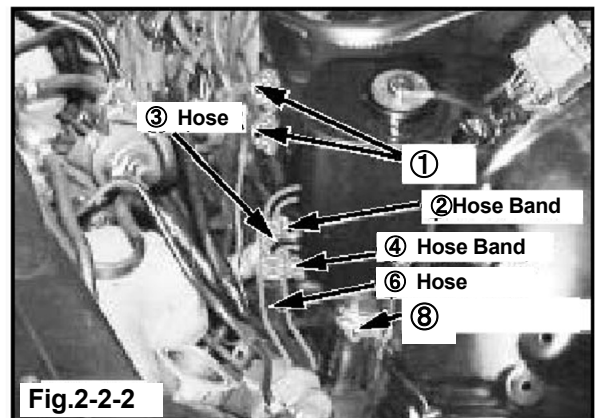

Fig.2-2-2
- 5) Remove the bolts ① (2 pcs) (Fig.2-2-2)
- 6) Loosen ②. Then remove ⑥. (Fig.2-2-2)
- 7) Loosen ④, ⑤. Then remove ⑥. (Fig.2-2-2, Fig.2-2-3)
- 8) Loosen ⑧. (Fig.2-2-2)
13) Install the power steering tank return hose and fix it with ① (Fig. 2-2-2 ⑧). (Fig.2-2-6)
19) Attach ① to the power steering tank bracket No.1 using the bolts ② (Fig.2-2-2 ① (2 pcs)). (Fig.2-2-8, Fig.2-2-9)
24) Connect ① (Fig.2-2-2 ③) and oil-resistant hose dia.10 cut to 400 mm attached to the power steering tank in 2-2.(15). (Fig.2-2-11)